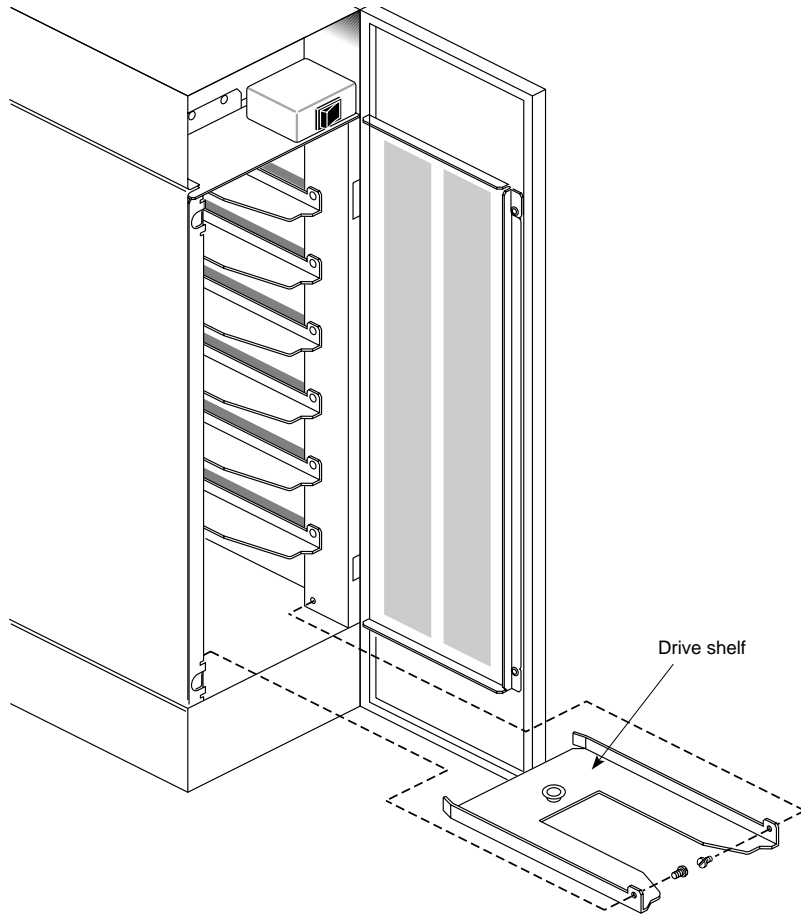

Figure 2-4 Removing a Drive Shelf From the Vault L
2. Select a drive shelf for removal, then remove the two screws that secure the drive shelf to the sides of the Vault L chassis (see Figure 2-4).